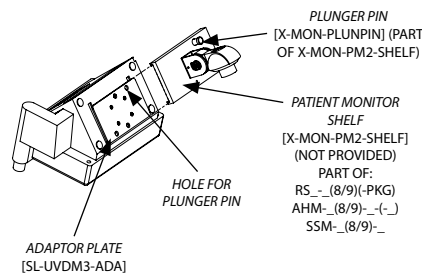

Figure 1
2. With the **MONITOR** attached, align the **ADAPTOR PLATE** to the slot of the **PATIENT MONITOR SHELF** and slide it in as shown in **Figure 1**.
(Figure 1)